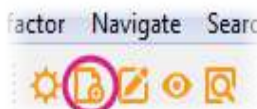

Figure 22 Build Application toolbutton in the LinkIt toolbar
- 1) Make sure your LinkIt Assist 2502 development board is connected to your PC and click the Build Application toolbutton, as shown in Figure 22.